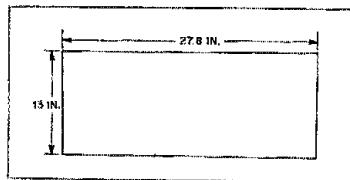

Fig. 4 — After allowing for the gain to be attained during the bending process, these are the dimensions of the piece of metal before bending.
3) Multiply the number of bends times the bend allowance; $2 \times 0.10 = 0.20$ in. (5 mm). This is the amount that must be subtracted from the total outside dimension for the piece to come out correctly; $28 - 0.20 = 27.8$ in. (706 mm). The piece must then measure 13×27.8 in. (330×706 mm) before bending (Fig. 4).